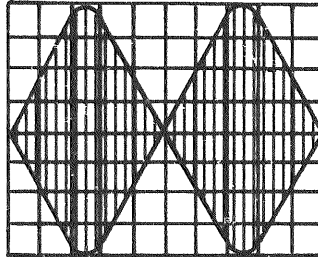

Figure 4-5. Cat's Eye Pattern for Radial Alignment
- 7) Observe the CE ("Cat's Eye") pattern (see Figure 4-5). Place a jumper across TP7-1 and TP7-2. Uncalibrate the vertical scale of the scope, and adjust the peak-to-peak amplitude of the larger lobe to eight major divisions/centimeters.